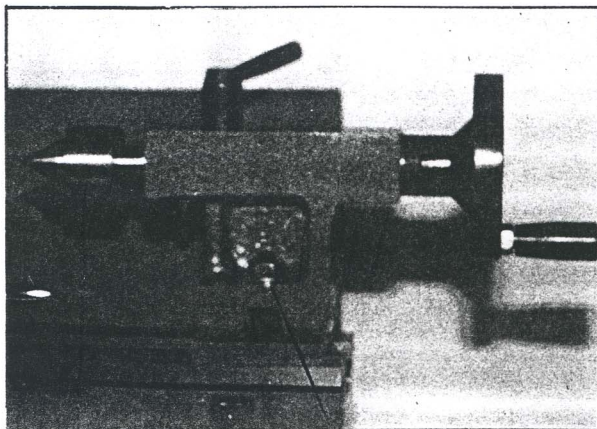

Fig. 9
To change position or replace the tailstock, loosen the nut as shown in (A) of figure 9.